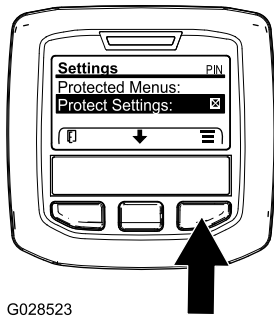

Figure 10
1. From the MAIN MENU, use the center button to scroll down to the SETTINGS MENU and press the right button (Figure 10).